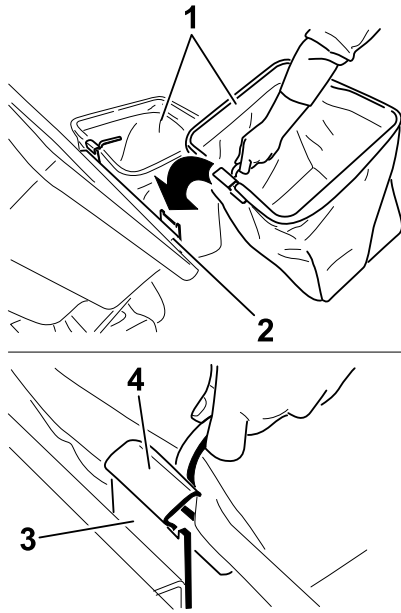

Figure 20
4. Lift the bagger top and install the bags by sliding the bag frame hooks onto the retaining brackets (Figure 20).